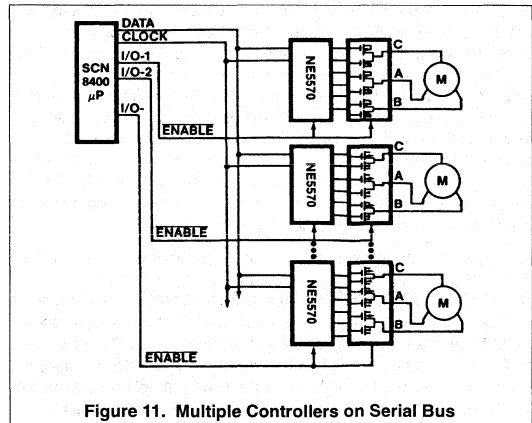

Figure 11. Multiple Controllers on Serial Bus
The requirement to control a number of brushless motors of various sizes and at different physical locations represents an interesting challenge. An ideal solution is demonstrated in an example which uses the Inter-IC ( $I^2C$ ) bus in modified form. The NMOS SCN8400 provides serial bus control using standard two-wire bus architecture, data plus clock; however, the NE5570 requires an additional chip enable signal input line (CE) in order to operate. As shown in Figure 11, this is easily implemented by using a separate I/O port signal line for each motor
control module. To select a particular motor, the I/O port sends the CE signal which enables the respective NE5570 to receive the proper input data commands. This allows several motors within a radius of approximately 10 to 12 feet to be controlled by a single I2C processor simultaneously. (See Figure 11.)